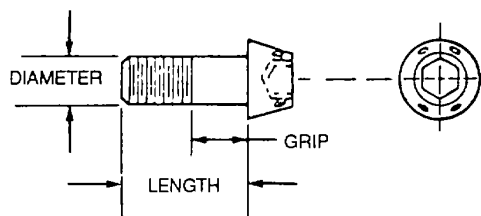

Figure 2-5. Internal Wrenching Bolt
*h. Internal Wrenching Bolts.* Internal wrenching bolts, as shown in figure 2-5, are high strength steel bolts used primarily in tension applications. The bolt hole must be countersunk or a high tensile countersunk washer must be used to clear the large corner radius of the shank at the head and give adequate bearing area. Use a high tensile plain washer under nut if required. Do not substitute common aircraft bolts and washers for high tensile bolts and washers.